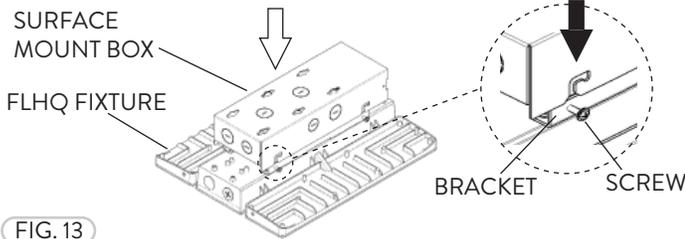

FIG. 13
- 1 Fasten the Surface Mounting Box to the top-center of the FLHQ fixture by fitting the slots onto the Screws on each side. Tighten the Screws to hold the Surface Mounting Box into place to the Brackets on top of the FLHQ fixture (Fig. 13).